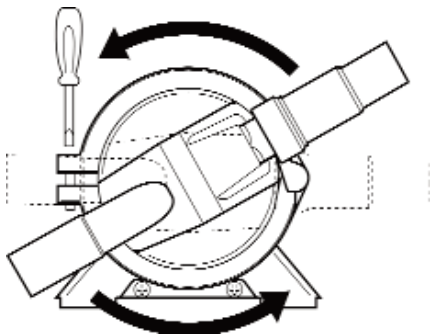

Fig 4 - Gulper® IC Installation
- Fig 4 Gulper® IC installation
**NOTE:** The pump head may be rotated to suit the hose connections. Loosen the screw, adjust and reposition the head to the required position (Fig 4) and tighten the screw